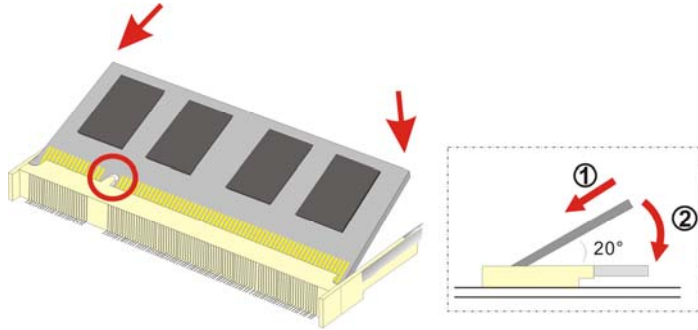

Figure 4-3: DDR SO-DIMM Module Installation
- Step 7:** Install the new DDR memory module by pushing it into the socket at an angle (**Figure 4-3**).
- Step 8:** Gently pull the spring retainer clips of the SO-DIMM socket out and push the rear of the DDR memory module down (**Figure 4-3**).